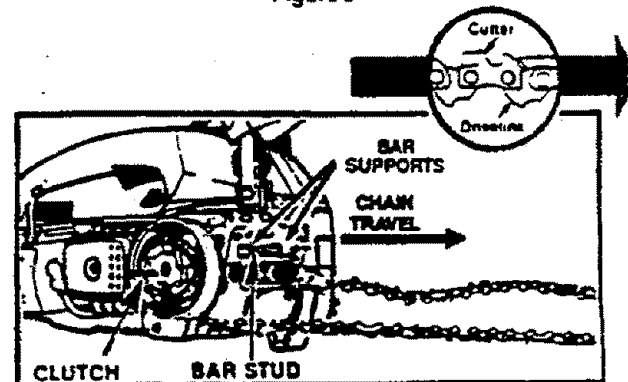

Figure 7
- Hold chain with cutters facing as shown in Figure 7 (inset).
- Place chain over and behind the clutch drum, onto the sprocket. Figure 7.